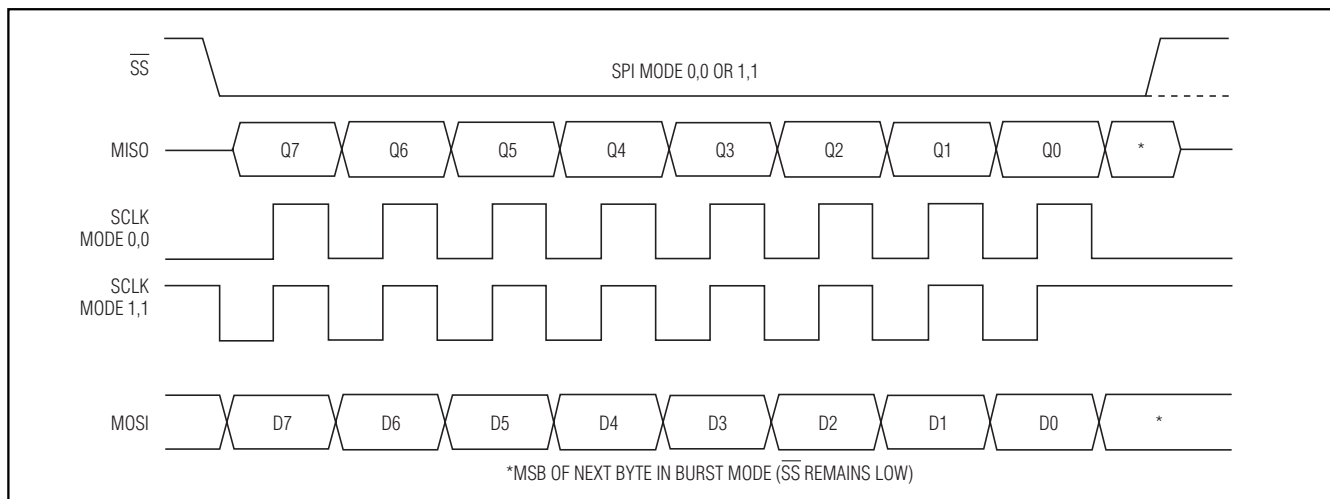

Figure 16. SPI Clocking Modes
The SPI master provides the MAX3421E SCLK signal to clock the SPI interface. SCLK has no low-frequency limit, and can be as high as 26MHz. The MAX3421E changes its output data (MISO) on the falling edge of SCLK and samples input data (MOSI) on the rising edge of SCLK. The MAX3421E ignores SCLK transitions when \overline{SS} is high. The inactive level of SCLK may be low or high, depending on the SPI operating mode (Figure 16).
The MAX3421E SPI interface operates without adjustment in either SPI mode (CPOL = 0, CPHA = 0) or (CPOL = 1, CPHA = 1). No mode bit is required to select between the two modes since the interface uses the rising edge of the clock in both modes. The two clocking modes are illustrated in Figure 16. Note that the inactive SCLK value is different for the two modes. Figure 16 illustrates the full-duplex mode, where data is simultaneously clocked into and out of the MAX3421E.
- 2) After driving SCLK to its inactive state, the SPI master selects the MAX3421E by driving \overline{SS} low. The MAX3421E turns on its MISO output buffer and places the first data bit (Q7) on the MISO output (Figure 16).
puts the MSB of the next data byte in the sequence on the MISO output (Figure 16).